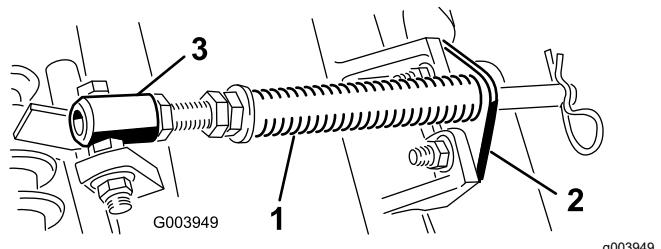

Figure 10
- A. Remove the 2 carriage bolts and nuts securing the rod bracket to the cutting unit tabs (Figure 10).
- B. Remove the flange nut securing the spring tube bolt to the carrier frame tab (Figure 10). Remove the assembly.